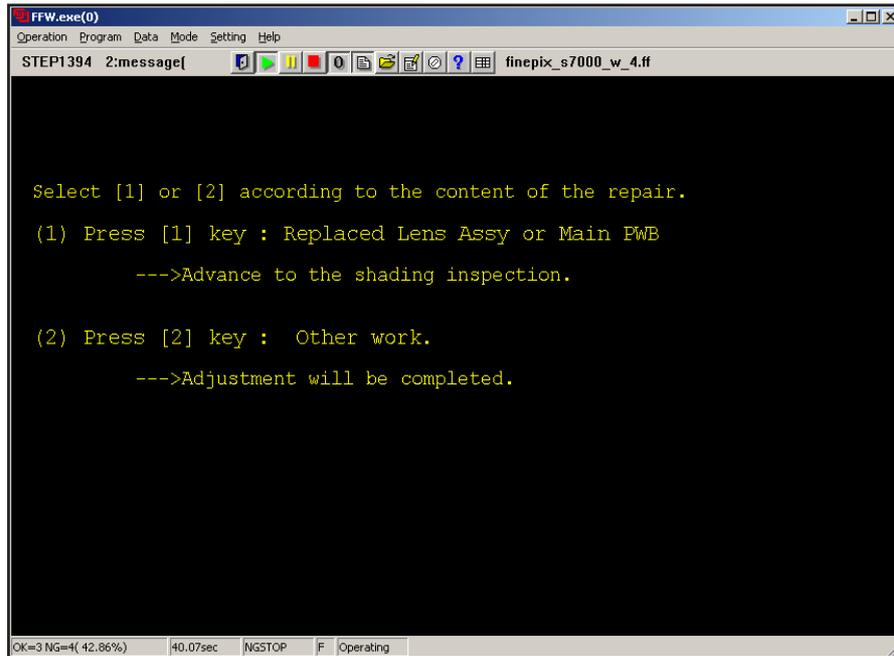

Fig.46
---> The [Adjustment details selection Screen (Fig.46)] is appears.
Select a setting in the [Adjustment details selection Screen(Fig.46)].